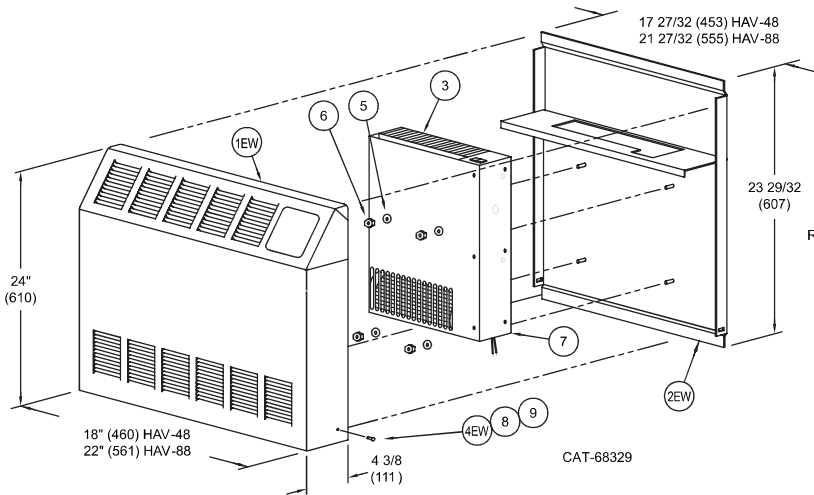

FIGURE 5
| TYPE "EW" FIGURE 5 PARTS LIST | 1EW. | FRONT PANEL |
- 3.) Mount the Fan/Coil Unit (Item 3) to the back recessed panel, remove the electrical control box cover from fan/coil unit. Secure the fan/coil unit in place using items 5 & 6 as shown in Figure 5. Do not over tighten.